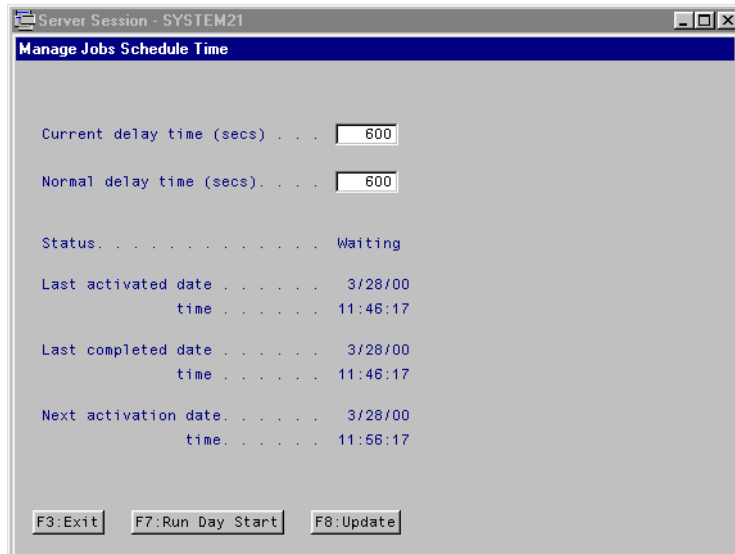

Figure 90. Job schedule times parameter screen
Figure 90 shows the Job Scheduler Time parameter maintenance screen, which displays the status of the job scheduler. You access this display by typing the Manage Job Schedule (MNGJOBSCH) command.
- From the Manager Jobs Schedule Time parameter screen (Figure 90 on page 147), click **Run Day Start** or press F7 to initiate the Job Scheduler and the ADS job stream.